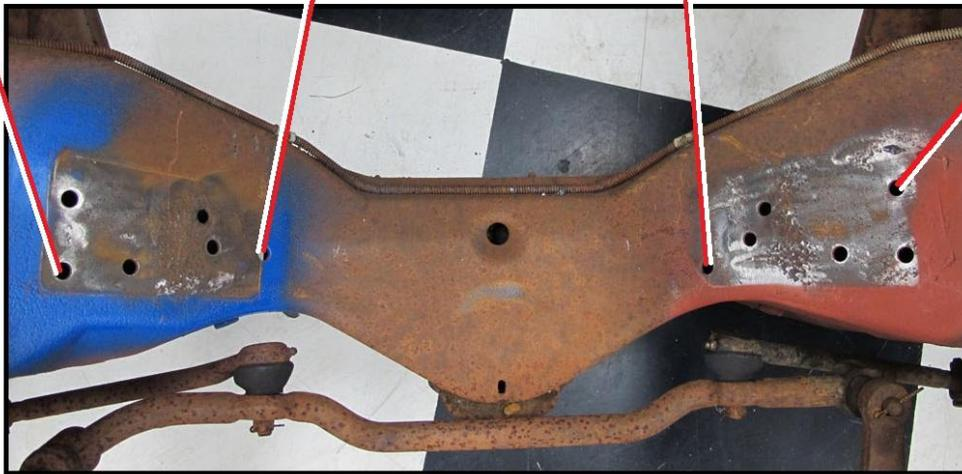

Figure 1
1. Remove the factory engine frame stands (brackets to which engine mounts are attached) from the subframe. Next, align the included drilling template with the existing holes in either side of the subframe following **Figure 1** on the next page and pilot drill three 3/16" diameter holes in each side of the subframe in the positions indicated by the template. Use 3/8" bolts as guide pins in the template "align" holes to keep it in position as you drill.